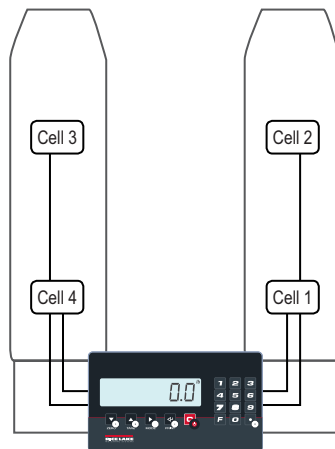

Figure 6-1. Load Cell Locations
23. Place a test weight about 1/8 of the maximum capacity on the location of load cell 1 (Figure 6-1).
25. Move test weight to the location of load cell 2 (Figure 6-1 on page 46).
27. Move test weight to the location of load cell 3 (Figure 6-1 on page 46).
29. Move test weight to the location of load cell 4 (Figure 6-1 on page 46).